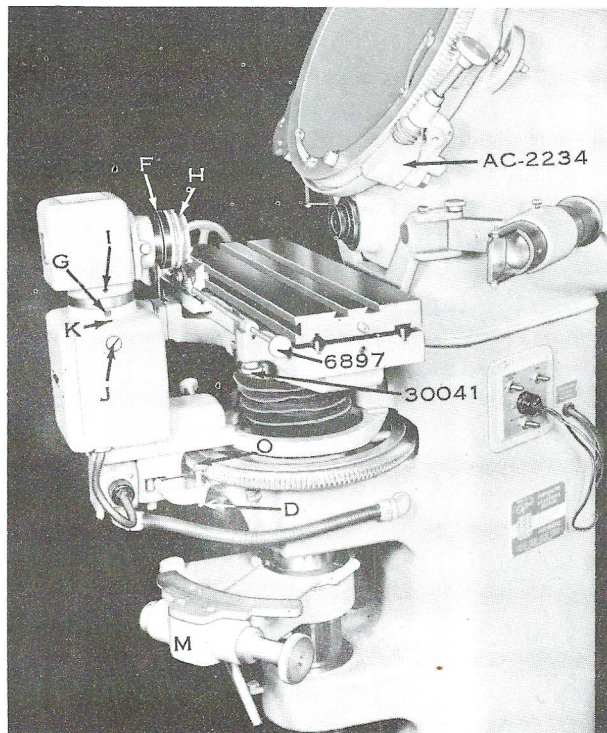

Fig. 4
Insert lamp (which has a vertical filament) into lamp socket and place chimney over same. Install condensing lens F in lamphouse. (Fig. 4).
The left side of the lamphouse bracket C is aligned with a scribed line on the supporting bracket E and locked with Screw D. Check this location. Figs. 4 and 5.
Remove the condensing lens assembly (F) from the lamphouse. An image of the lamp filament will appear upon the screen. Adjust screws (G) to centralize this image with the vertical center line on the screen. Fig. 4 and 5.
hole in the center of diaphragm (A). This is done by raising or lowering the bulb with eccentric (J) which is held in place by binding screw (K). Fig. 4 and 5.
If the machine is equipped with the Table Angle Attachment AC-2025, (M in Fig. 4) set the table at the proper angle using the vernier attachment.
In making lateral measurements, the micrometer is set at even graduation, a standard end measuring bar or size block nearest in size to the space to be measured is inserted between the anvils. With screw 6897 (Fig. 4) adjust the shadow laterally to match the chart centerline. Remove the end measuring bar and with the micrometer adjust the shadow of the second position to coincide with the chart centerline. The exact measurement may then be read on the micrometer.
The Pedestal Comparator will measure 4" vertically with the graduated handwheel P (Fig. 4 and cover). The handwheel with which the table is adjusted vertically is provided with a slip ring graduated in .0001" or .005 m/m divisions. The hub of handwheel P (Fig. 4) is supported on ball bearings and acts as a nut on the accurately ground table spindle.
With graduated ring Q free to rotate in the handwheel, the zero line on the ring is set to match the line on pointer (O) (Fig. 4) and locked in this position. Disengage worm (N). Raise or lower the table until the